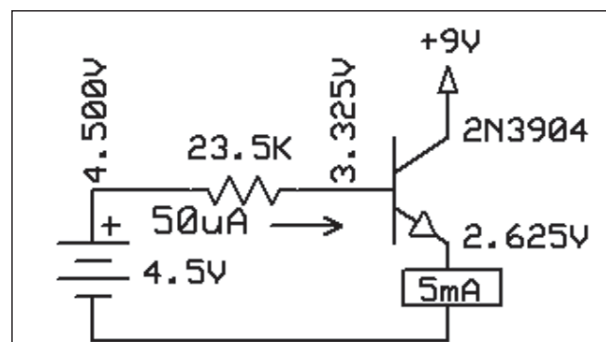

FIGURE 2: Correct output voltage under a 5mA load.
23.5K, not 47K. **Figure 2** shows the correct output voltage under a 5mA load.